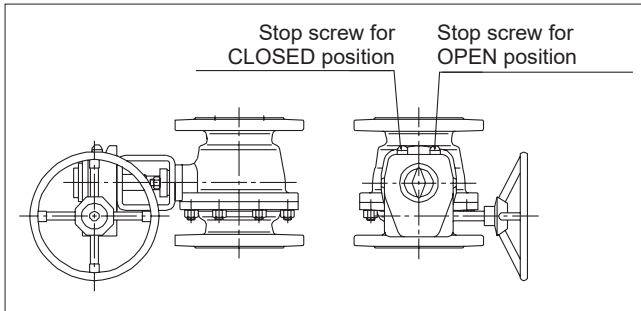

Fig. 22 Open and closed positions of the M actuator
- Adjust the ball fully open and fully closed positions with the hexagon screws located on both sides of the housing (see Fig. 22). The stop-screw for the open position is nearest to the handwheel on the side of the housing and the screw for the closed position is at the opposite end. The turning directions for the handwheel are marked on the wheel.